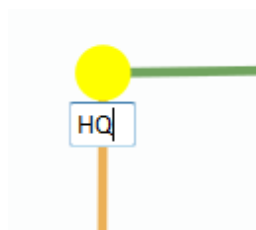

Figure 40 Custom Node Naming
- Custom Node Naming** – Naming each node in the network is as simple as double-clicking on the node name and typing in a new name as shown in **Figure 40**. This feature enables quick identification of nodes in the field and is especially useful in mission critical situations with many mobile assets. The user can click on the ‘Save Labels in Flash’ button in the left pane to store the node names to the radio’s flash memory. This will store the names on the radio even after the radio is powered off. The saved labels can also be cleared back to the defaults by clicking ‘Clear Labels in Flash’. The node labels set in one radio can also be broadcasted to other radios in the network by clicking the ‘Broadcast Node Labels’ button.